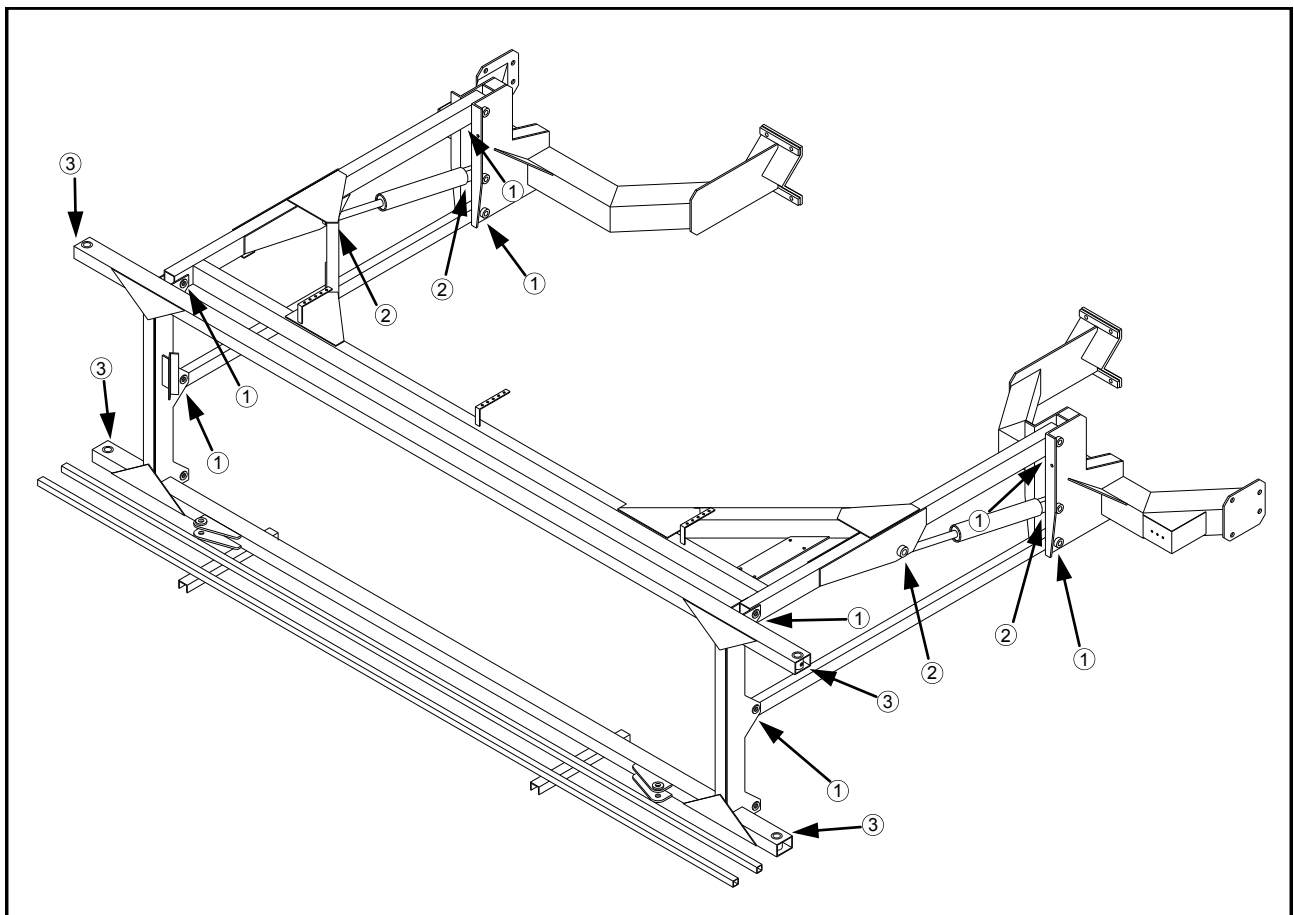

FIG 8.28
**Lift arm lift pivots:** eight places (fig. 8.28, items 1)
**Lift cylinder pivots:** four places (fig. 8.28, items 2)
**Boom fold pivots on transom:** four places (fig. 8.28, items 3)